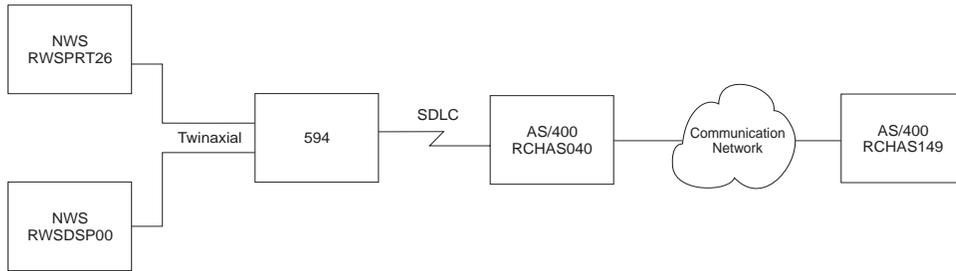

Fig. 15: APPN Network configuration
- Fig. 15: APPN Network configuration 9